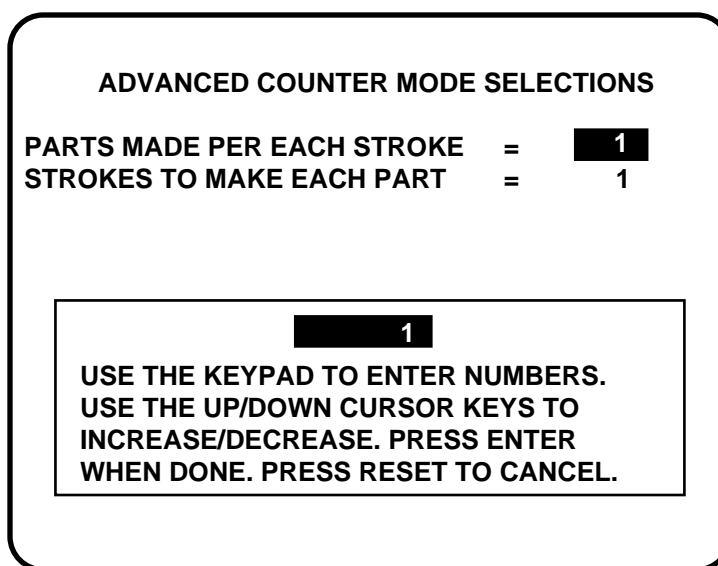

Figure 5-10. Setting parts/stroke or strokes/part
2. Highlight the item you want to set. Press ENTER. A box appears on the screen, as shown in Figure 5-10.